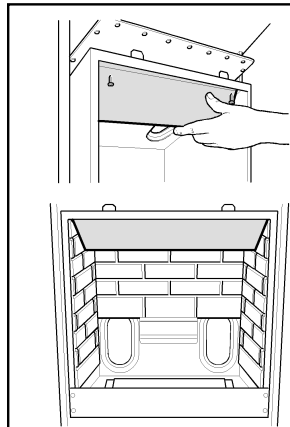

Figure 23
3. Remove two screws from under the top front of the firebox. Using these screws, fit the port cover. See figure 23.